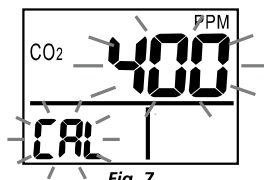

Fig. 7
1. Place the meter in the calibration site. Turn on the meter and hold down "CAL/ESC" and "▲/DP/WB" simultaneously to enter CO₂ calibration mode. 400ppm and "CAL" are blinking on the LCD while performing calibration. (Fig. 7)